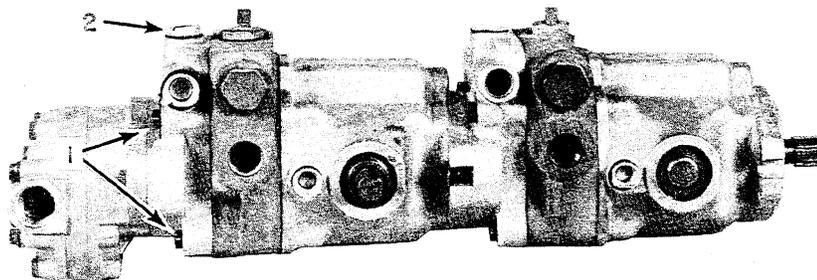

FIGURE 12
2. Remove the four cap screws holding the charge pump to the transmission assembly. The two top bolts are longer than the two bottom bolts. Two of these bolts on the left side of the pump assembly are shown at (1), Figure 12.
4. Remove charge tube (8), Figure 9, so the charge pump can be rotated counter-clockwise 180°. The charge pump section (2) is shown in Figure 12.